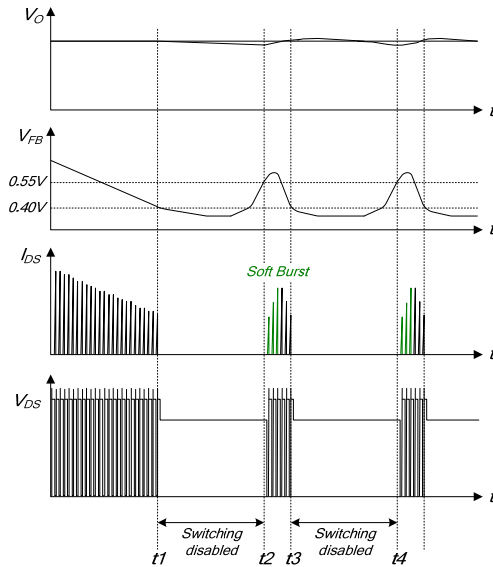

**Figure 21. Abnormal Over-Current Protection**
**4.2 Abnormal Over-Current Protection (AOCP):** When the secondary rectifier diodes or the transformer pins are shorted, a steep current with extremely high di/dt can flow through the SenseFET during the minimum turn-on time. Even though the FSL128MRT has overload protection, it is not enough to protect in that abnormal case; due to the severe current stress imposed on the SenseFET until OLP is triggered. The internal AOCP circuit is shown in Figure 21. When the gate turn-on signal is applied to the power SenseFET, the AOCP block is enabled and monitors the current through the sensing resistor. The voltage across the resistor is compared with a preset AOCP level. If the sensing resistor voltage is greater than the AOCP level, the set signal is applied to the S-R latch, resulting in the shutdown of the SMPS.